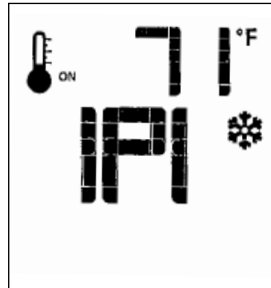
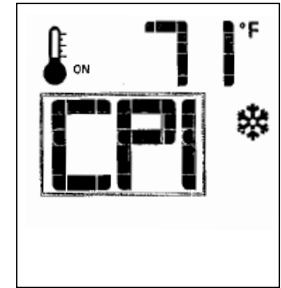

Fig. 15.4. IPI is the default position.
Fig. 15.5. CPI ON.
- With the transmitter in the OFF position, press the transmitter Mode key - IPI is the default mode. Fig. 15.4. Press the Up arrow to index to the CPI icon and activate the Continuous Pilot Ignition mode. Fig. 15.5. Pressing the Down Arrow Key will return to Intermittent Pilot Ignition. A single “beep” will confirm reception of the command.